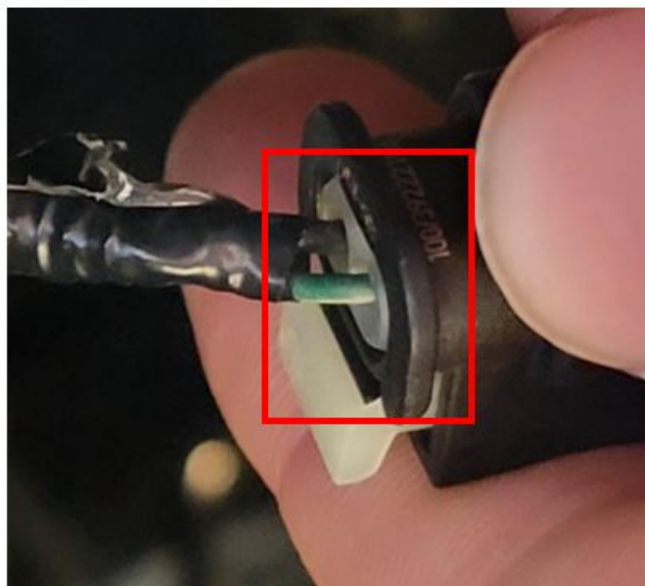

Fig. 2
3. Check if the connector D3157A is fully seated and/or connected properly to the PDC (Fig. 2) .